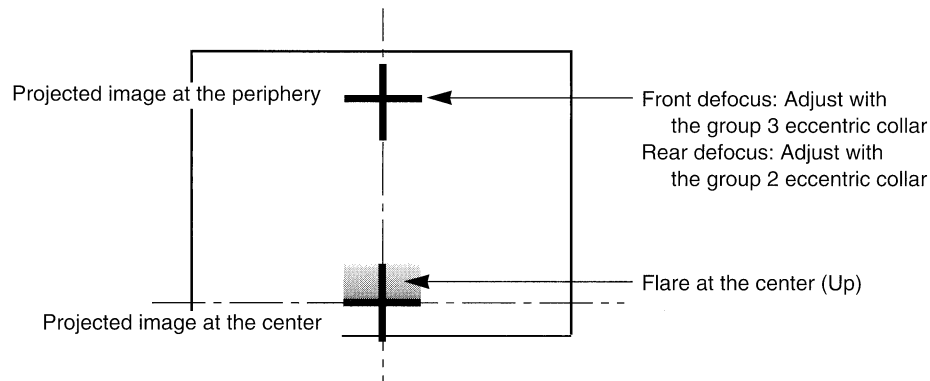

Fig. 3-18 Projected Image
4. Observe the direction of the flare of the projected image at the center. (See Fig. 3-18.)